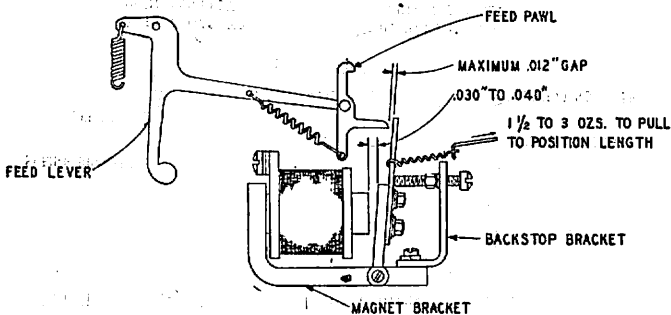

Fig. 20
4.60 **Armature Air Gap.** When the armature is released, the air gap, measured at the top edge of the core, shall be Min.  $.030''$ , Max.  $.040''$ . See Fig. 20.
4.61 **Armature Spring Tension.** When the armature is released, the armature spring tension shall be Min.  $1\text{-}1/2$  ozs., Max. 3 ozs. To measure tension, unhook spring from backstop bracket and pull to position length as in Fig. 20.
4.63 **Magnet Bracket Position.** With the armature released there shall be some clearance, not more than .012", at the point of minimum clearance between the end of the feed pawl extension and the side of the blocking plate as the feed lever is moved downward, and no interference between these parts as the feed lever is moved upward after completing a downward stroke. See Fig. 20. To gauge, turn motor by hand and determine points of minimum clearance as the feed lever is lowered and raised.